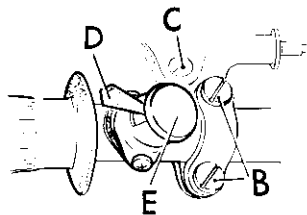

FIGURE 2.
**Headlight Dip-switch.**—The housing is mounted on the left handlebar at (*D*), Fig. 2).
**Horn Push.**—This is combined in the same mounting as the dip-switch on the left handlebar at (*E*), Fig. 2.
**Handlebar Levers** (Figs. 2 & 6).—The levers can be moved after slackening the screws (B), which must be securely tightened afterwards. The looseness of the lever is adjusted by rotation of screw (C), after slackening of its locknut.